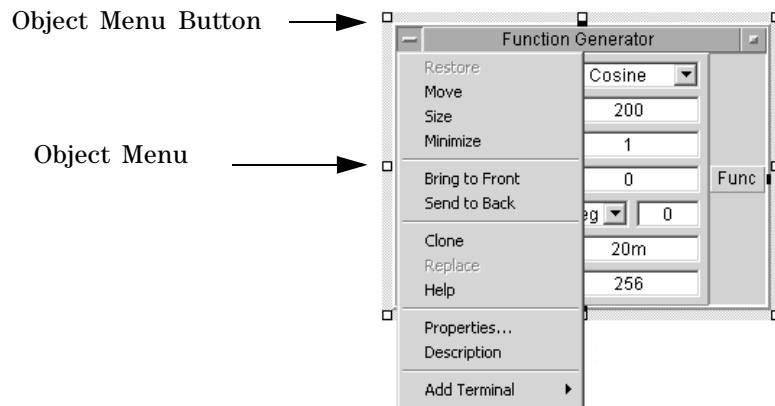

Figure 8 Selecting an Object Menu
- 1 To select the object menu, click *once* on the object menu button. (All object menus open the same way.) The object menu appears, as shown in Figure 8. (Do not double-click the object menu button. That is the shortcut for deleting the object.)